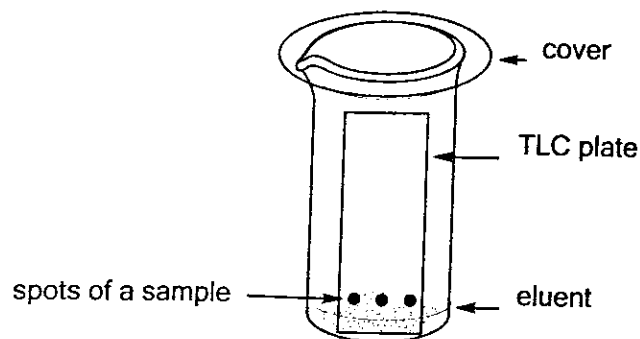

Fig. 4/2003. A TLC chamber.
d) Use TLC to estimate the reaction completeness. To do so, use a capillary to take a sample of the reaction mixture in about 30 min since it started boiling and apply it to each of the three TLC plates (A, B, and C) at the dot labeled "1". Use a clean capillary to apply the reference *o*-phenylenediamine solution to each of the three TLC plates at the dot labeled "2". Place Plate A into the chamber with eluent A (hexane), Plate B into the chamber with eluent B (hexane – ethyl acetate, 1/1), and Plate C into the chamber with eluent C (ethyl acetate) (fig. 4/2003).